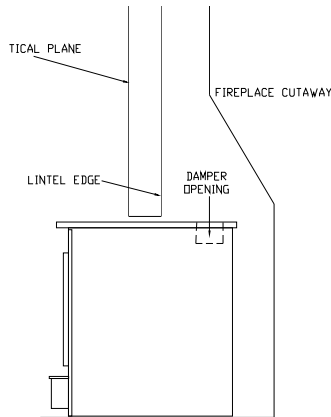

FIGURE 2 POSITIONING
When positioning the heater, the following conditions **MUST** be met! (See Figure 2).
1. The front of the damper opening must be positioned **BEHIND** the rear edge of the lintel to ensure proper draft. (See Figure 2).
After the unit is positioned as shown in (Figure 2), mark the mounting position of the trim panels as follows: